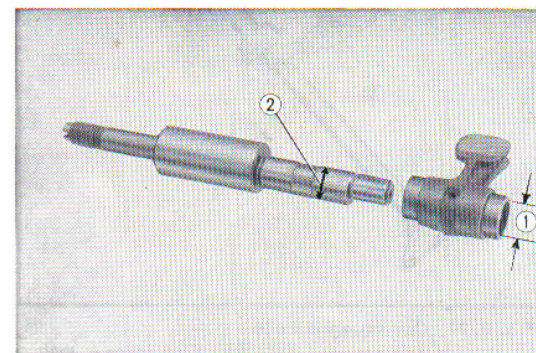

Fig. 3.32 Cam follower and Cam follower shaft
1. Camshaft (Fig. 3.32, 33, 34)